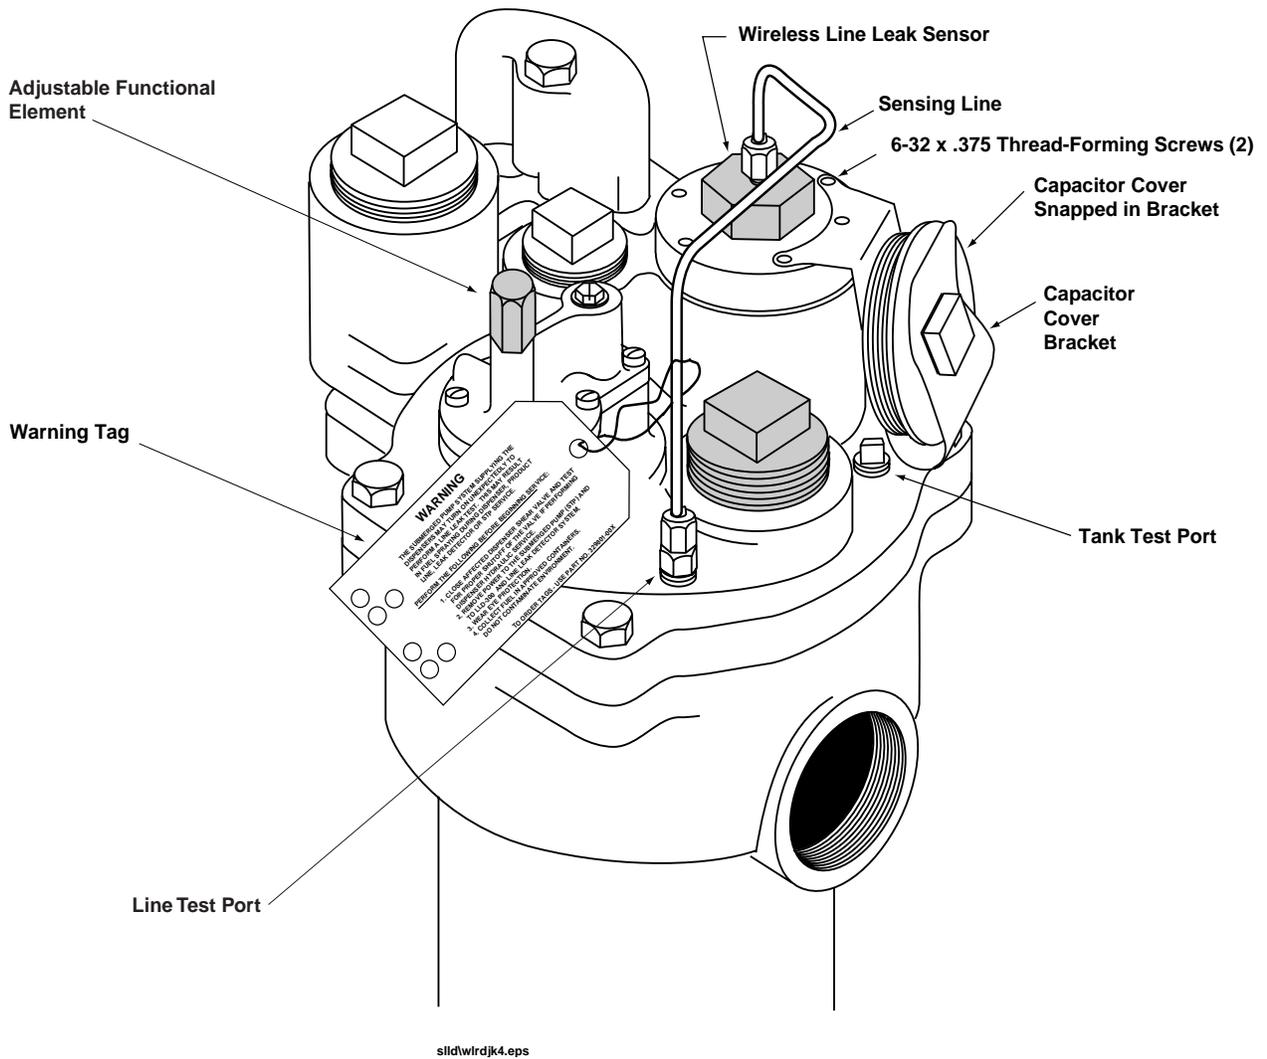

Figure 11. Completed WPLLD Sensor Installation for 3.0 gph Models - Red Jacket Pump
8. **For The 3.0 Gph-Only Model**, connect the Sensing Line to the WPLLD sensor. Remove the small pressure port plug [Figure 5] and attach the other end of the Sensing Line to this port [Figure 11]. Tighten connections and attach one of the “WARNING” tags to the Sensing Line. With the two 6-32 x 0.375” screws provided, attach the capacitor cover bracket to the top of the WPLLD sensor. Snap the capacitor cover into the storage bracket.